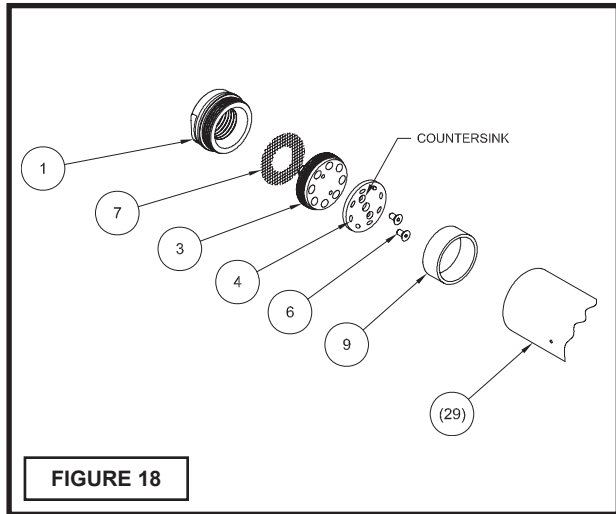

FIGURE 18
See Figure 18
Secure orifice plate (4) to flow divider (3) using screws (6). See Figure 18 for correct orientation of orifice plate.